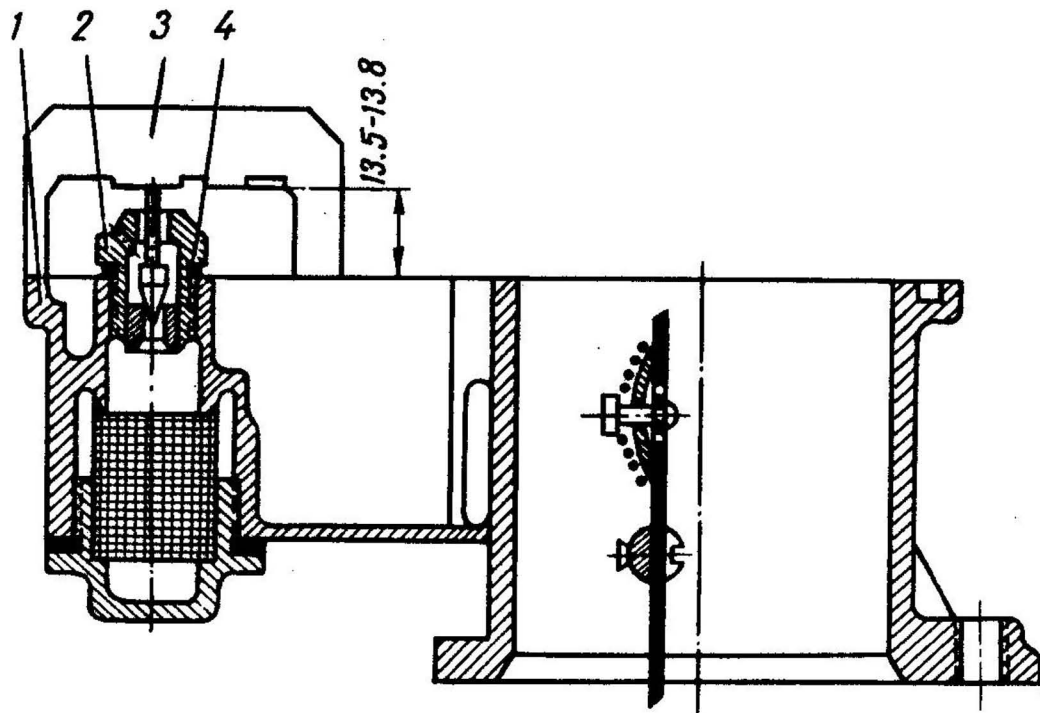
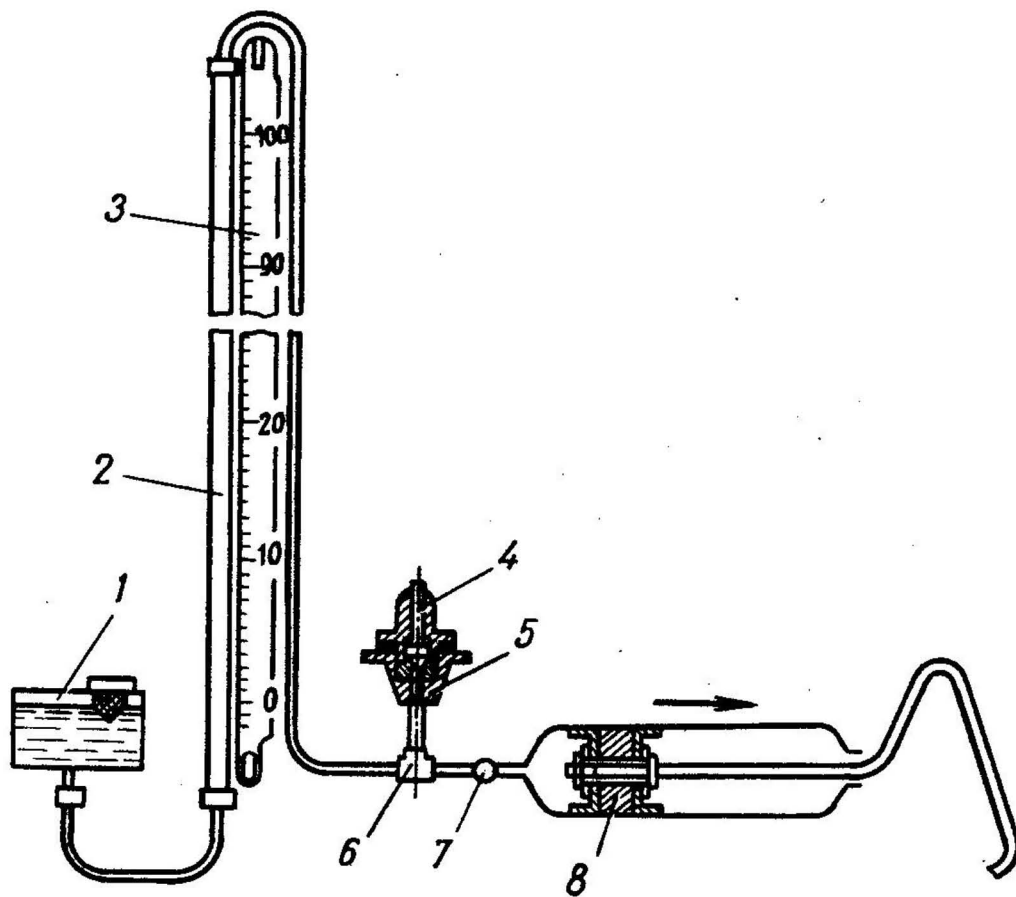

FIG.60. NEEDLE VALVE ADJUSTMENT CHECK
FIG.61. NEEDLE VALVE AIRTIGHTNESS TESTER
6. Unscrew the body of needle valve 2 (Fig.60) of the float chamber and test it for airtightness on a special vacuum tester (Fig.61). In this case, the water level in check tube 2 should not drop at a vacuum equal to 1 mm H2O.
8. Install the needle valve body in place and adjust the height of the needle valve by means of shims 4 (Fig.60). The height should be within 13.5 to 13.8 mm.